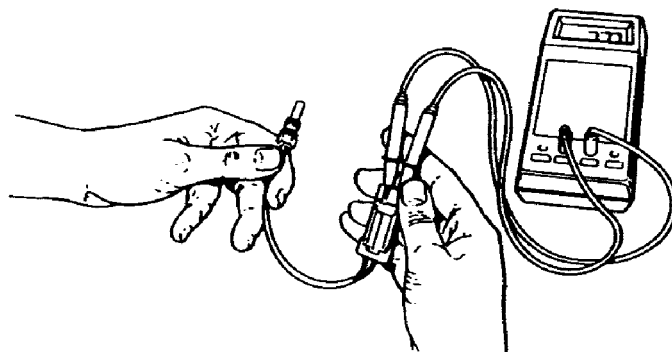

Figure 7.17-19
- Connect multimeter (adjusted to measure resistance) to temperature sensor as shown in figure 7.17-19. Polarity of the sensor connections to the multimeter is not important.